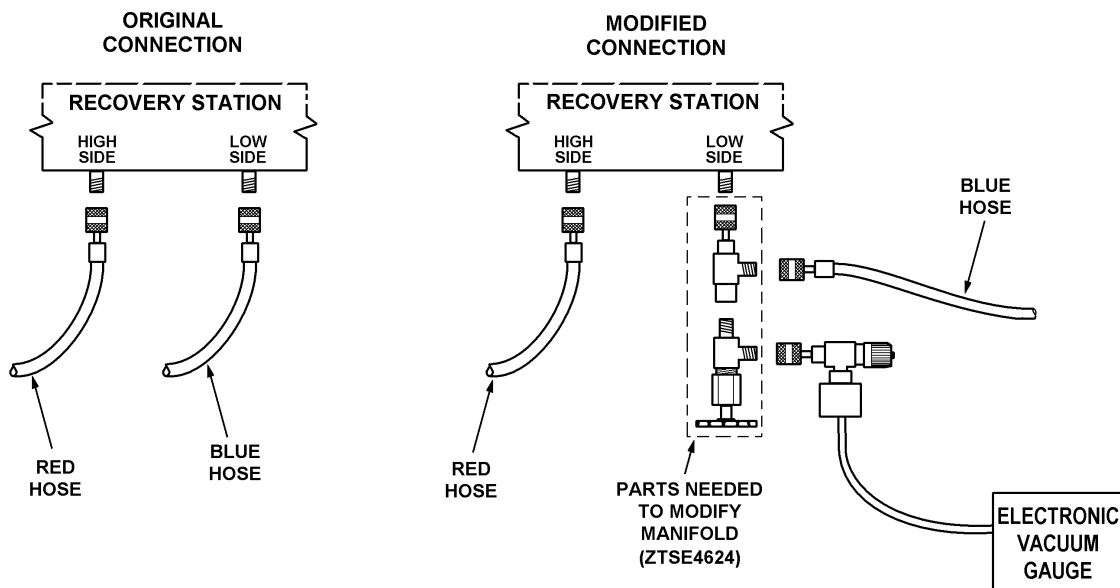

Figure 42 Connection of Electronic Vacuum Gauge
3. Connect the electronic vacuum gauge to the recovery station, at the vacuum manifold, using a valve and 'T' fittings (refer to Figure 42).